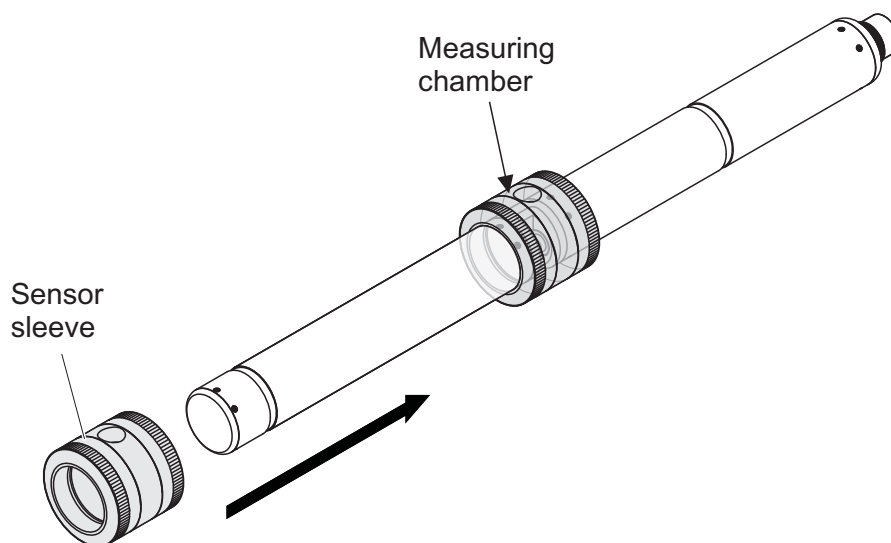

Fig. 4-4 Putting the sensor sleeve on the sensor
9. Put the sensor in a horizontal position on a firm and vibration-free surface. Turn the filling opening of the sensor sleeve upward (Fig. 4-4).